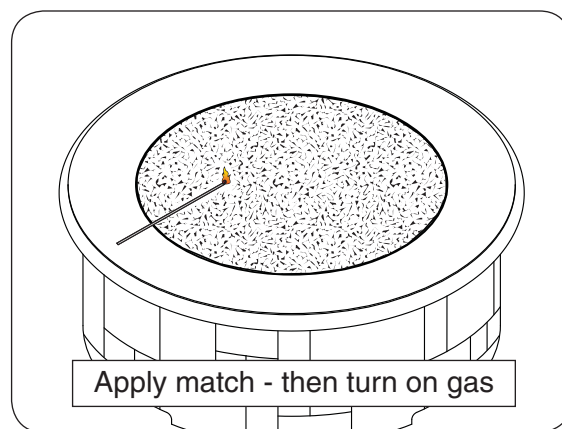

Fig. 39-1
- 3. Lay a lighted match on the surface of the decorative media near the burner (**do not hold the match in your hand**) (Fig. 39-1).